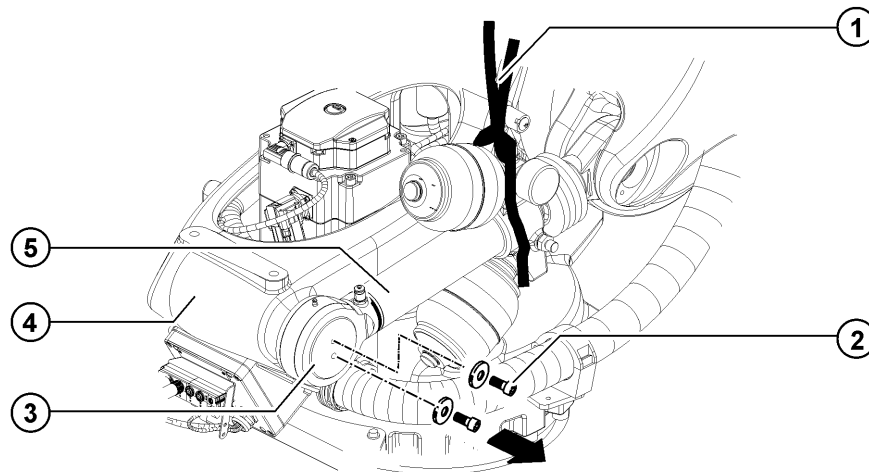

Fig. 11-29: Removing the counterbalancing system on a ceiling-mounted robot: rotating column
7. Remove 2 Allen screws and lock washers, and take the cover off the rotating column (>>> Fig. 11-29).